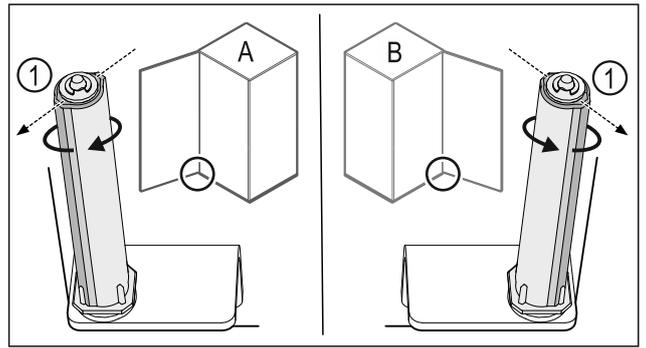

Fig. 31 Left-hinged (A) / Right-hinged (B)
- ▶ Turn the closing system against the resistance until the bar of the closing system Fig. 31 (1) points outwards.